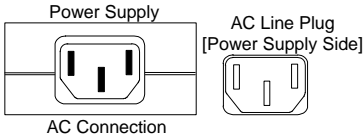

**Figure 2: External Charger Power Supply**
2. If you have ordered an External Charger Kit (Kit 1 or 2 – refer to the Support Section of the External Charger User's manual for part numbers and description), remove the associated Power Supply and AC Line cable (if applicable) from the packing container (refer to Figure 2 and Figure 3).